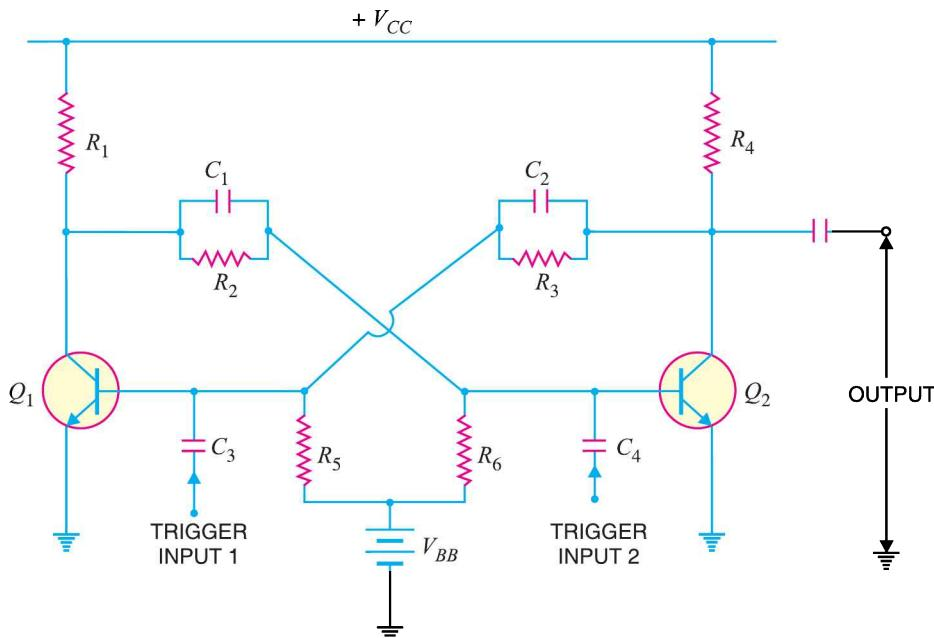

Fig. 18.17
**Circuit details.** Fig. 18.17 shows the circuit of a typical transistor bistable multivibrator. It consists of two identical  $CE$  amplifier stages with output of one fed to the input of the other. The feedback is coupled through resistors ( $R_2, R_3$ ) shunted by capacitors  $C_1$  and  $C_2$ . The main purpose of capacitors  $C_1$  and  $C_2$  is to improve the switching characteristics of the circuit by passing the high frequency components of the square wave. This allows fast rise and fall times and hence distortionless square wave output. The output can be taken across either transistor.